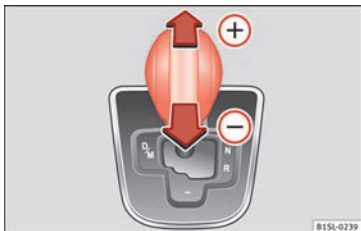

Fig. 149 Lever in the Tiptronic position
- Press the lever forwards **+** or backwards **-** to move up or down a gear » » Fig. 149.